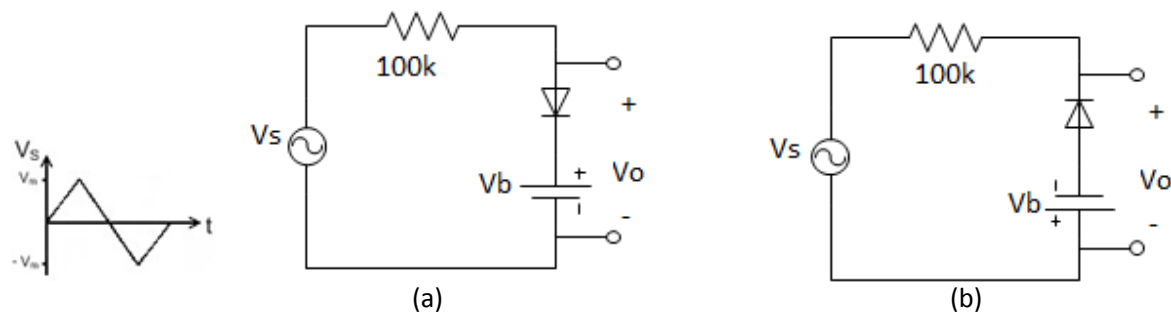
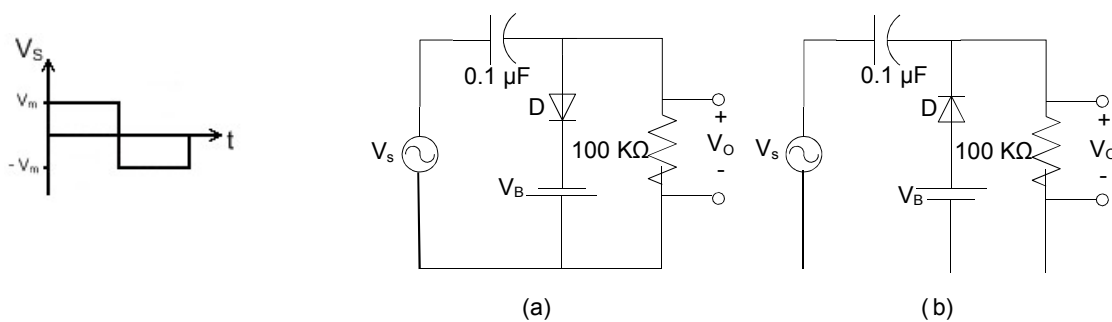

Figure 3.7: Parallel Clipper Circuits
Figure 3.8: Clamper Circuits
6. Repeat step 2-4 for figure 3.7 and figure 3.8
Input-output Fig 3.7 (a)
Input-output Fig 3.7 (b)
Input-output Fig 3.8 (a)
Input-output Fig 3.8 (b)
2. In procedure-4, explain the change in the p-p values and output wave form for Fig 3.6(a &b), Fig3.7 (a & b) and Fig 3.8 (a & b)
3. In procedure-5, explain the change in the p-p values and output wave form for Fig 3.6(a &b), Fig3.7 (a & b) and Fig 3.8 (a & b).